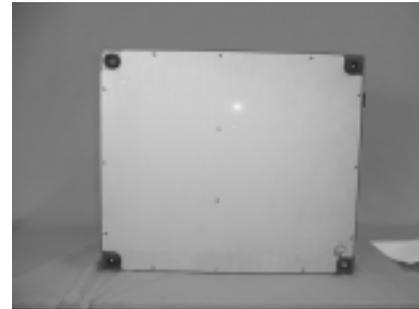

FIGURE 10-1
I. Remove 14 bind screws 4x5, and remove bottom plate. Fig.10-1.